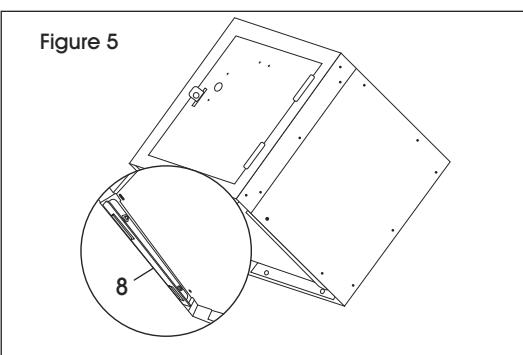

Figure 5
1. If joining unit on top of another, attach brackets (8) to bottom of side panels on top locker with bolts and nuts. (See Figure 5)